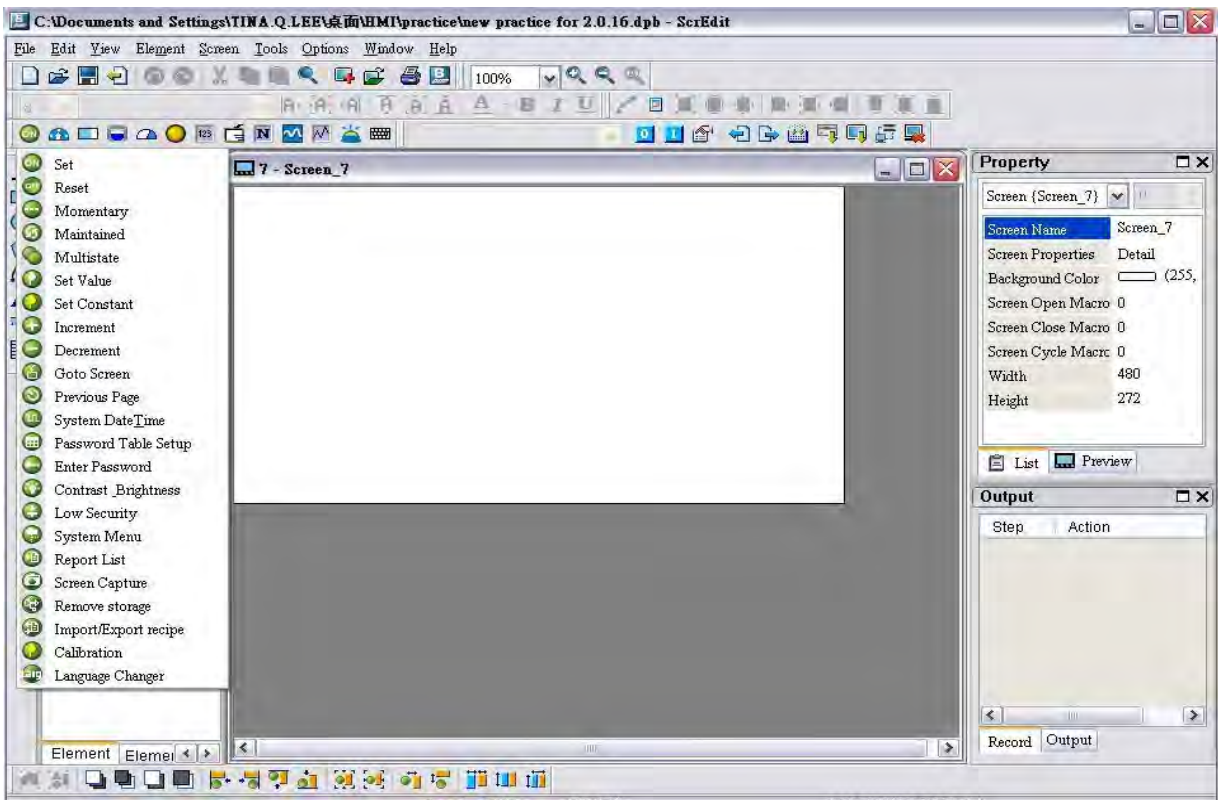

Fig. 3-8-3 Choose Element icon from toolbar
3. Choose Element icon from toolbar as Fig. 3-8-3.